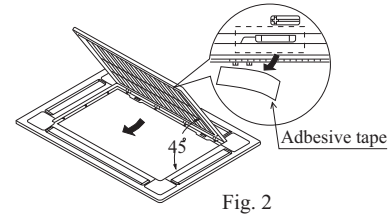

Fig. 2
B. Lift it up for about 45 degree and remove it from ornament. Tear off adhesive tape fixing air filter on the back of the air inlet grill. (Refer to Fig. 2)